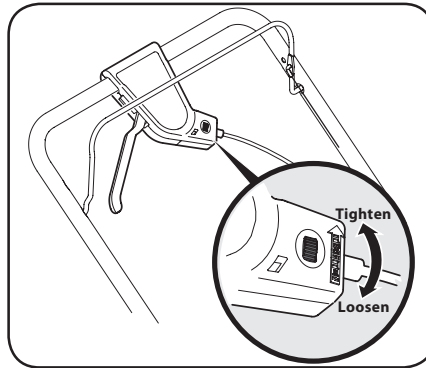

**Figure 2-13**
1. Remove wing nuts (a) and carriage bolts (b) from handle. See Figure 2-13.
2. Position the handle in one of the three positions that is most comfortable. See Figure 2-13 inset.